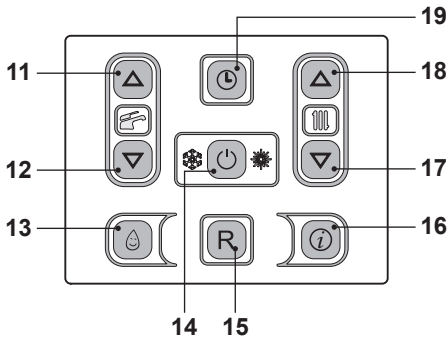
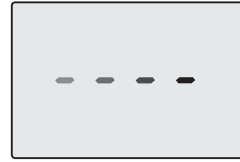

Fig. 2.33
Fig. 2.34
To activate the 3 star preheating function press key 13 (Fig. 2.33) until the following symbol appears on the LCD display  (Fig. 2.27). When the symbol  flashes, the function is in process.
To disable the 3 star preheating function press key 13 (Fig. 2.33) until the symbol does not disappear from the LCD display .
Press the key for 2 seconds 14 (Fig. 2.33) until the - - - - symbol appears on the display (Fig. 2.34).